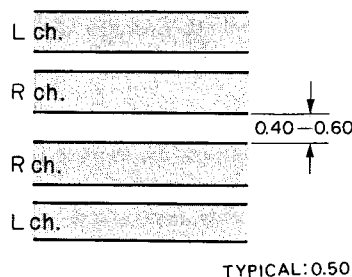

Fig. 6.14 Record Head Track
- (1) Load the Reference SX tape (DA09025A), set the TEST TONE SW to ON position and TAPE SELECTOR SW to the TAPE position. Set to record mode and adjust record head azimuth alignment screw D until the alignment beacon started flickering alternately.
- (2) Aligning Step (1) as above, align the screw F to obtain maximum reading of both channels.
- (3) Record the same portion of the both A and B sides of the tape after record head azimuth is aligned.
- (4) Immerse the recorded tape in a magnetized developing solution. In turn, check to insure that the recording head tracks across the center are separated with a distance of 0.4 to 0.6 mm typically 0.5 mm as illustrated in Fig. 6.14.